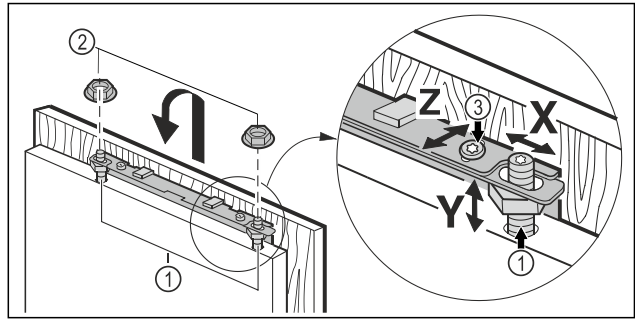

Fig. 46
- Hook the unit door onto the adjustment bolts Fig. 46 (1) and screw the lock nuts Fig. 46 (2) loosely onto the adjustment bolts.
- Align the unit door in height **Y** and in the lateral inclination: Adjust the adjustment bolt Fig. 46 (1) with a screwdriver.
- Tighten the lock nuts Fig. 46 (3).